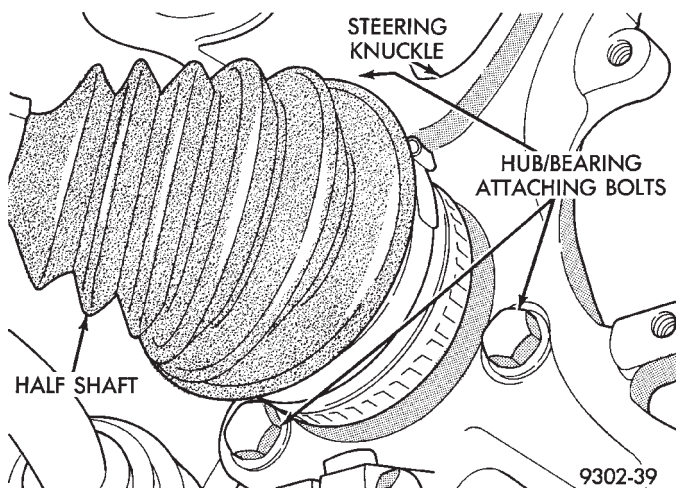

Fig. 57 Hub And Bearing Assembly Retaining Bolts
(6) Remove the 3 hub and bearing assembly to steering knuckle attaching bolts (Fig. 57).
(1) Install hub and bearing assembly onto stub shaft and into steering knuckle until squarely seated on face of steering knuckle
(2) Install the 3 hub and bearing assembly to steering knuckle attaching bolts (Fig. 57). Equally tighten all 3 mounting bolts until hub and bearing assembly is squarely seated against front of steering knuckle. Then tighten the 3 hub and bearing assembly mounting bolts to a torque of 110 N·m (80 ft. lbs.)